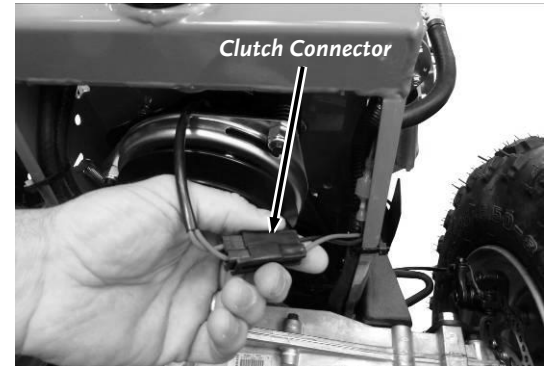

Figure 34
2. Disconnect the Clutch Connector by lifting the locking tab and separating the two halves (**Figure 34**).